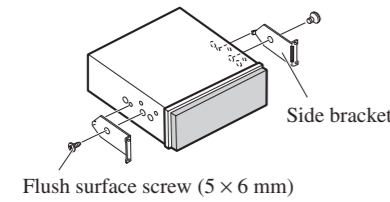

Fig. 7
2. Install side brackets. (Fig. 7)